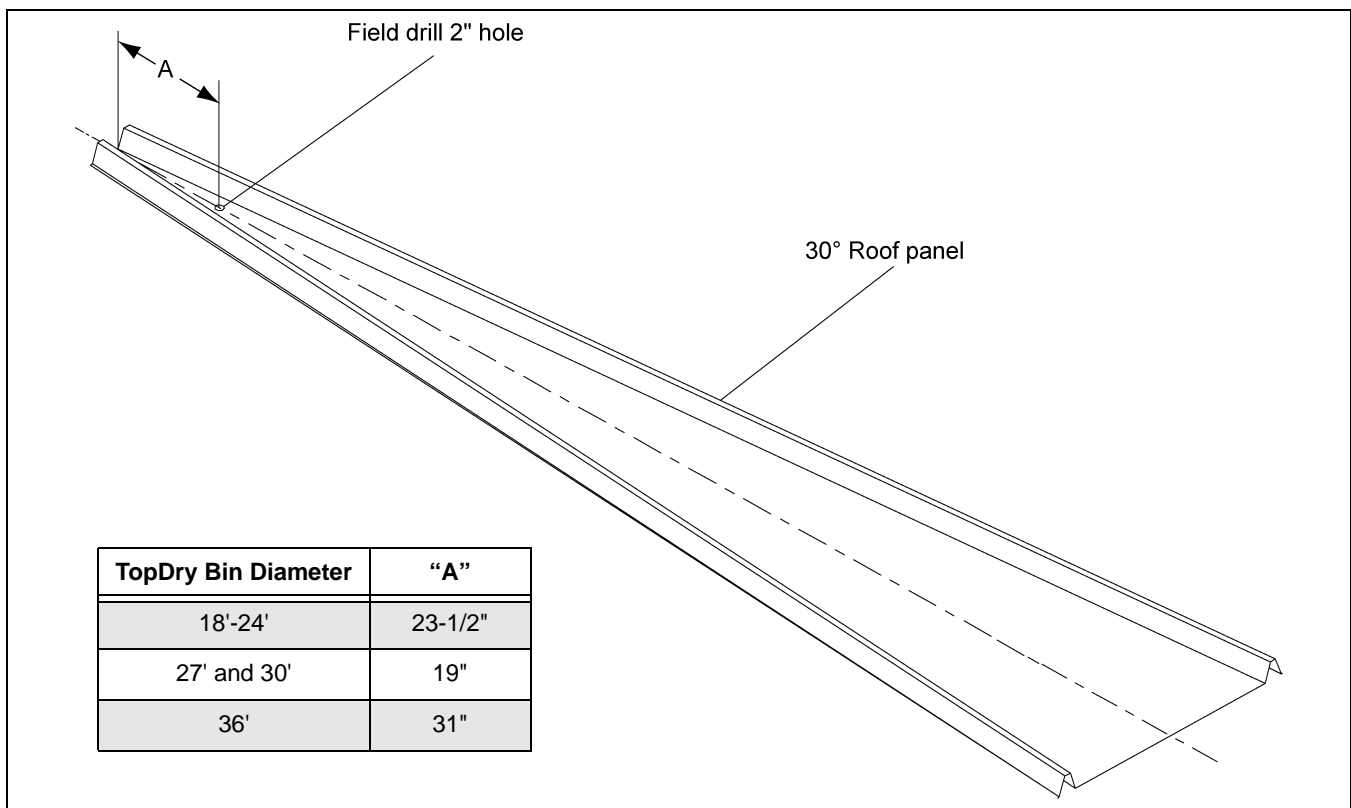
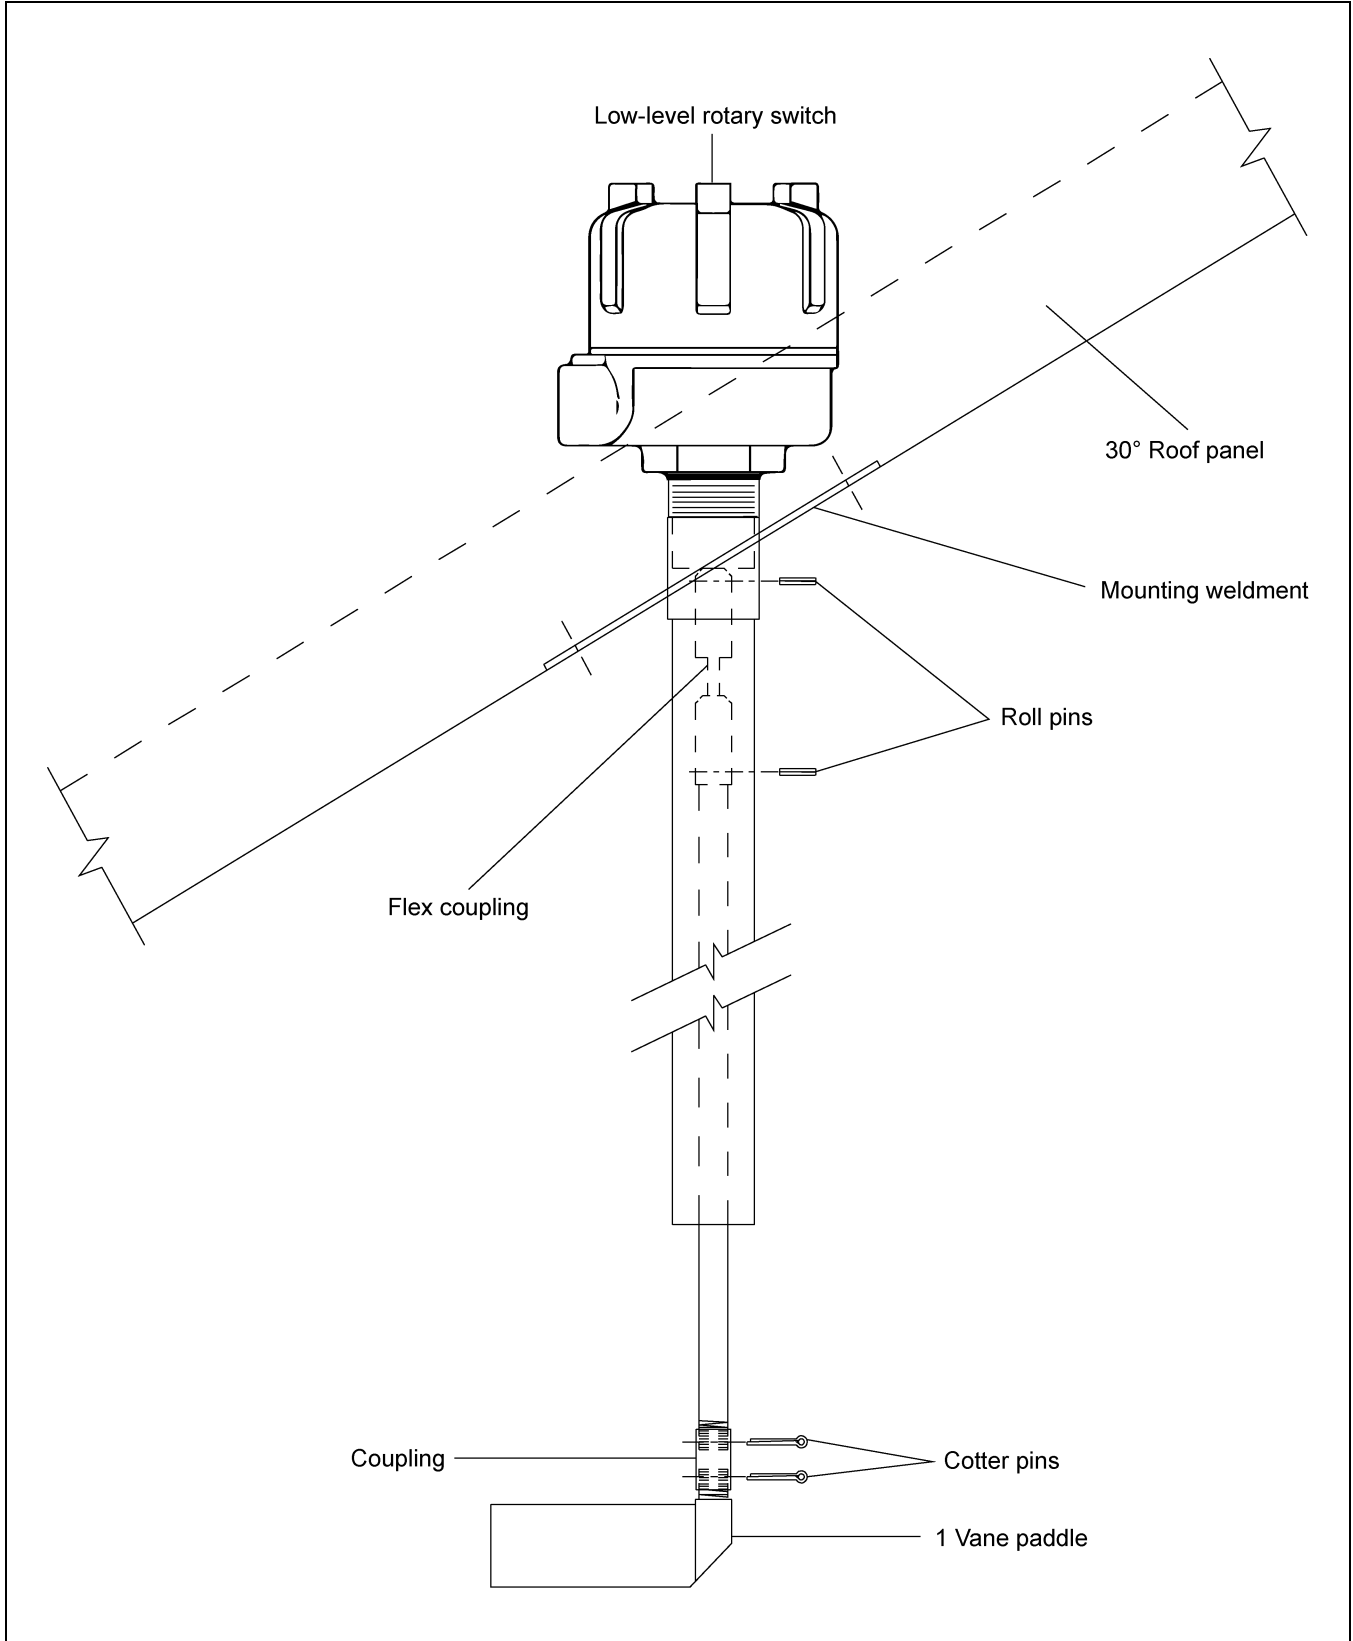
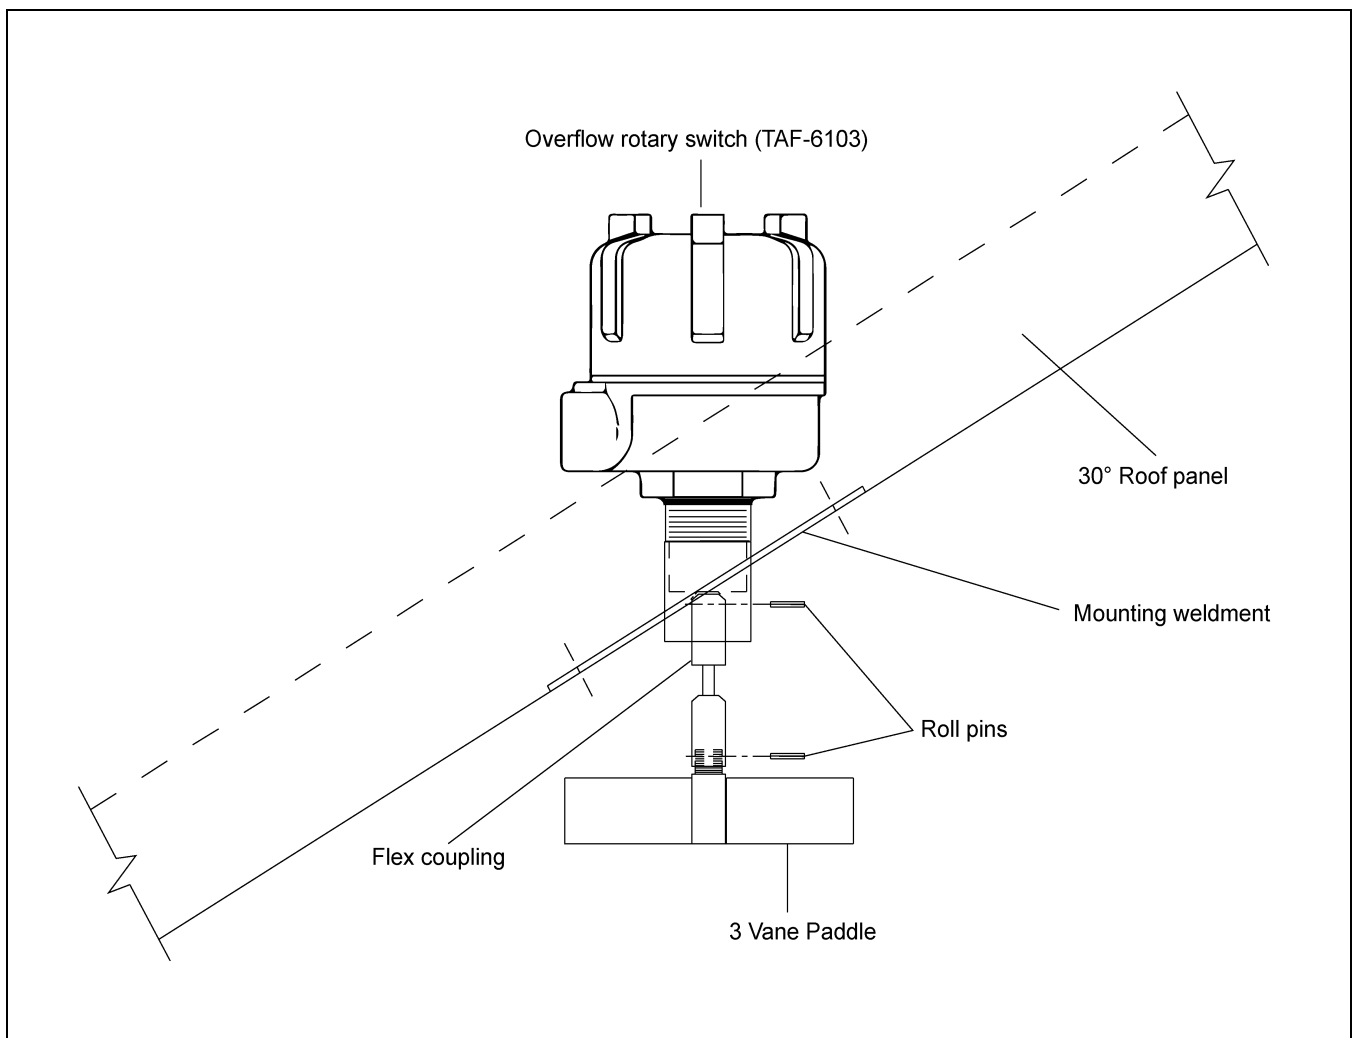

Figure 3T
Figure 3U
Figure 3W
1. Drill a 2" diameter hole through the roof panel at the location shown in Figure 3T. See component placement on Page 17 for proper placement in relation to fill auger.
2. Use the mounting plate as a pattern and drill four (4) 3/8" holes through the roof panel at the switch location so the plate can be bolted to the roof.
8. Attach the shaft extension according to Figure 3U on Page 36.
12. Attach the 1 vane paddle to the flex coupling as shown in Figure 3U on Page 36.
1. Drill a 2" diameter hole through the roof panel at the location shown in Figure 3T on Page 35. See component placement on Page 17 for proper placement in relation to fill auger.
8. Attach the 3 vane paddle to the flex coupling as shown in Figure 3W.